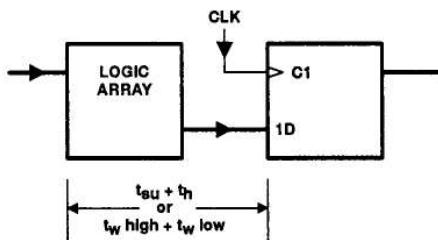

Figure 3. f_{\max} Without Feedback
***f_{max}* without feedback, see Figure 3**